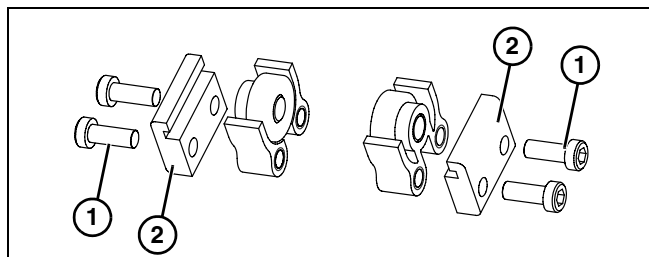
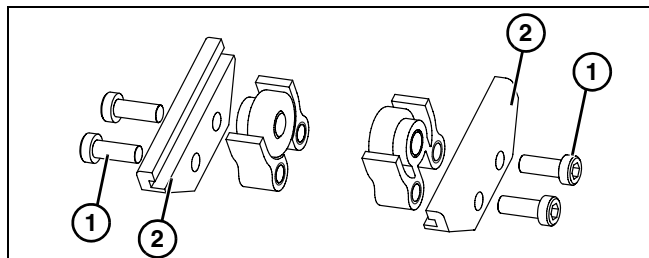

Figure 8
Figure 9
1. Locate return rollers. Exploded views shown in Figure 8 and Figure 9.
2. Remove screws (Figure 8, item 1) and (Figure 9, item 1) and clips (Item 2) from roller assembly.